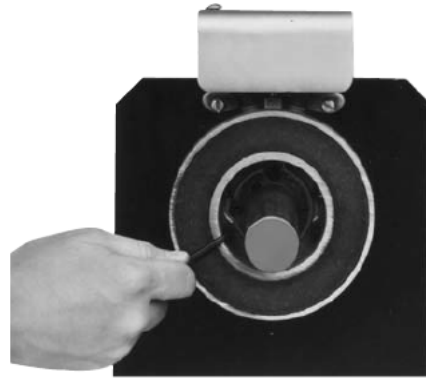

Figure 2
3. Once the mounting surface has been prepared, the magnet is bolted in place with capscrews and lock-washers. (Figure 2)